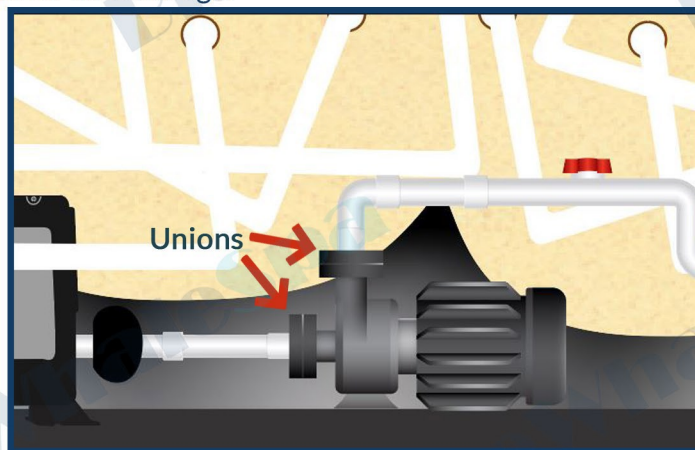

Fig.6
- 2) Once removed, you will be able to see all internal components of the hot tub including pipework, control box, heater, and pumps. All unions that tighten the pipes with each component need to be undone (2 per component) to release any retained water. (Fig.6)